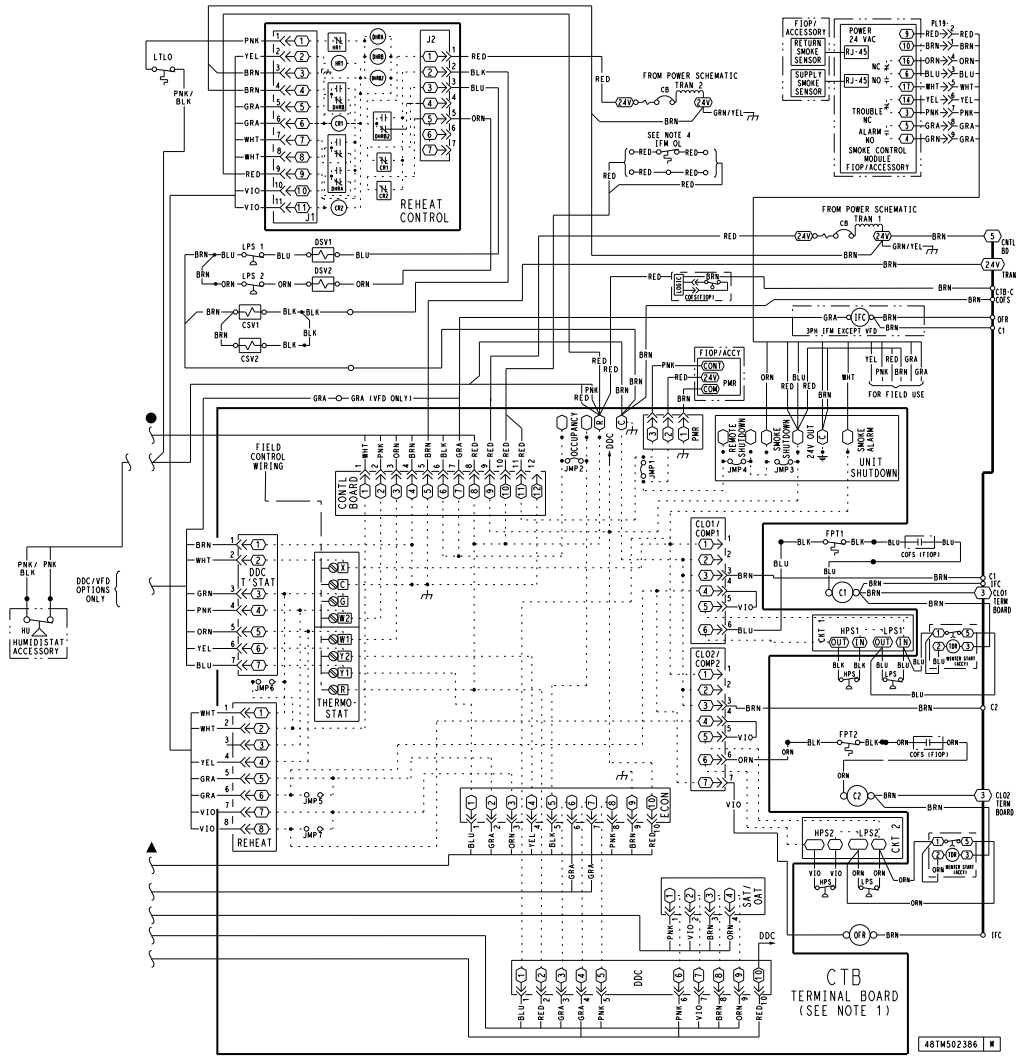

Fig. 36 - Typical Humidi-MiZer Adaptive Dehumidification System Humidistat Wiring
3. Use wire nuts to connect humidistat cable to two PINK leads in the low-voltage wiring as shown in Fig. 36.